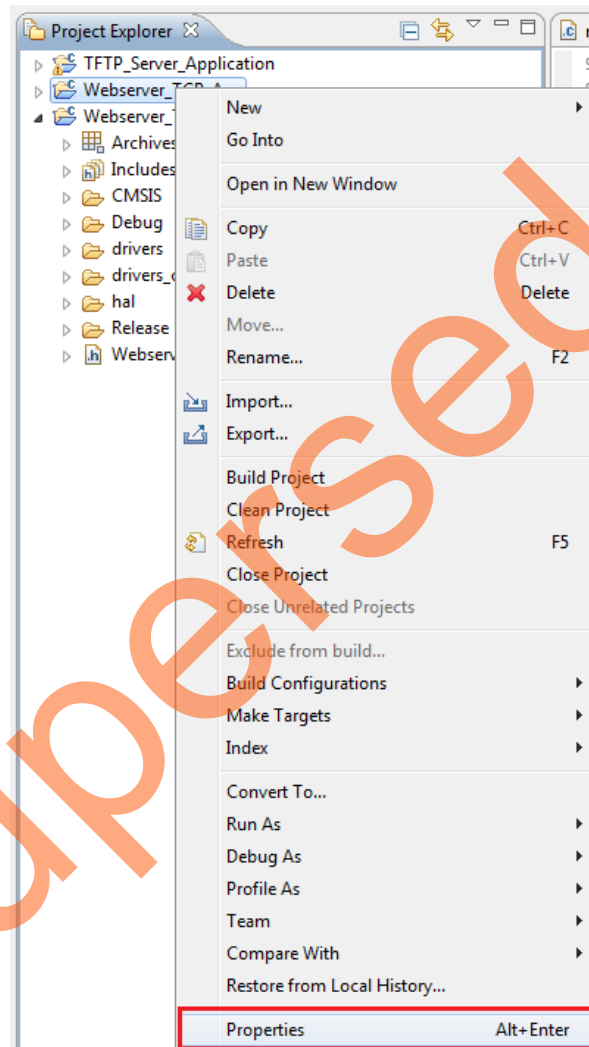

Figure 33 • Project Explorer Window of SoftConsole Project
1. To run the Webserver design in Static IP mode, right-click the Webserver_TCP_MSS_CM3_app project and select **Properties** as shown in Figure 33.